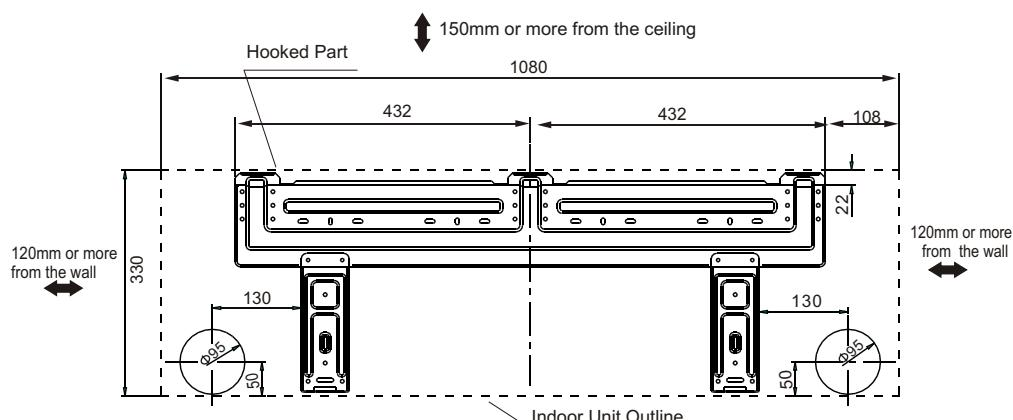

Fig.5
1. Determine hole positions according to the diagram detailed in Fig.5. Drill one (1) hole ( $\phi$  95mm) slanting slightly to outdoor side.